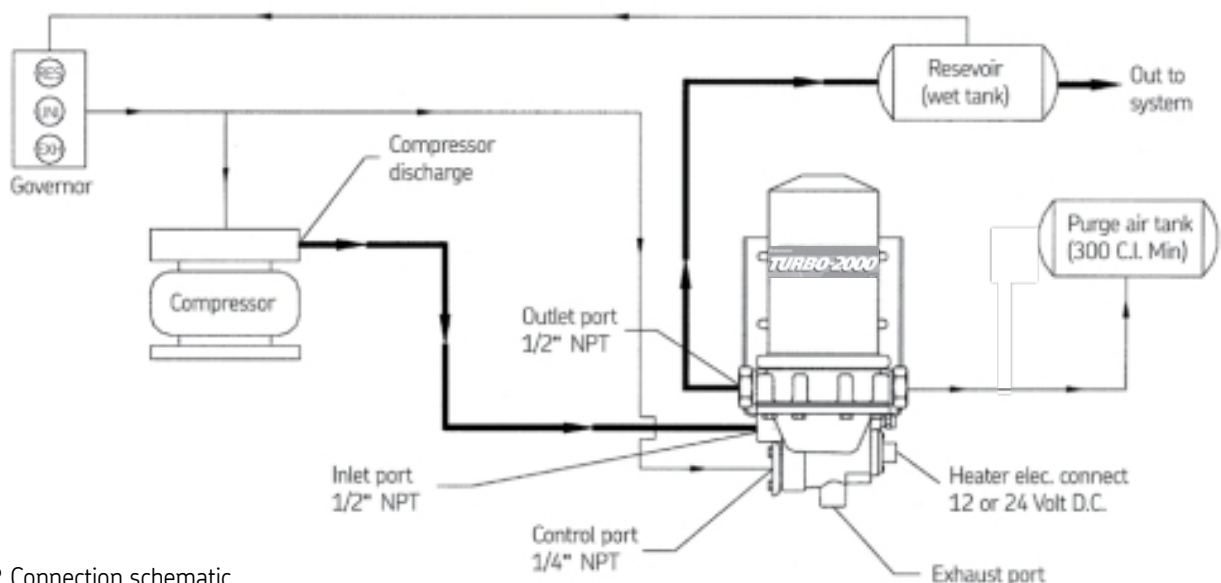

Fig. 2 Connection schematic
- **Connection ports:** (see Fig. 2)